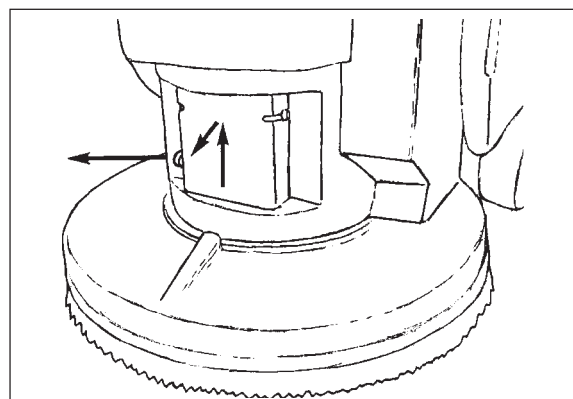
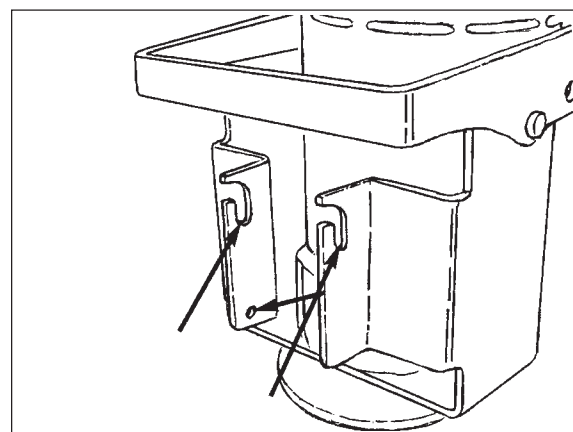

Figure 18
Figure 19
**NOTE:** It is not necessary to remove the brush housing assembly when removing or installing the brush or pad driver. For greater access to the brush or when driving the machine up a ramp, the brush housing assembly can be removed. To remove brush housing assembly, pull outward on the spring loaded pin on the left side of the housing, then lift the brush housing assembly up and outward (See Figure 18). Reinstall the brush housing assembly in reverse order, making sure the cross bar in the brush housing is inserted into the two slots located in the motor mount and the spring loaded pin is locked into position (See Figure 19).